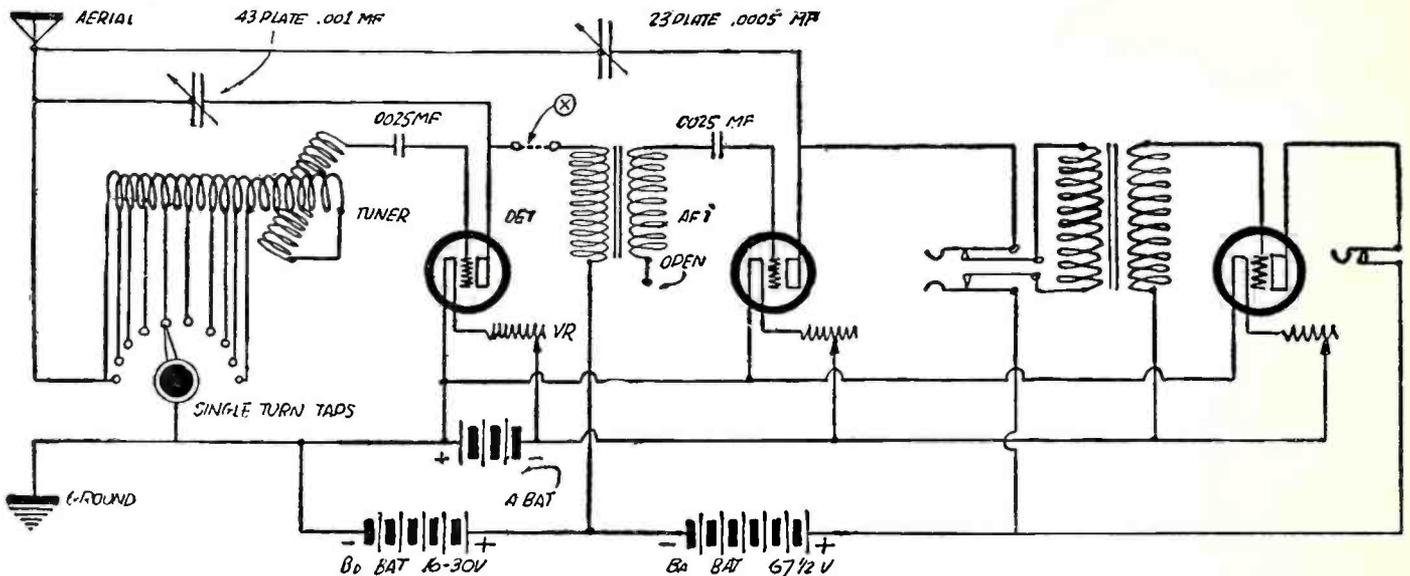

Figure 2.
*Answer:* I am printing in Figure 2 a circuit diagram showing how another tube can be added to the Regenerator as published in the February issue.